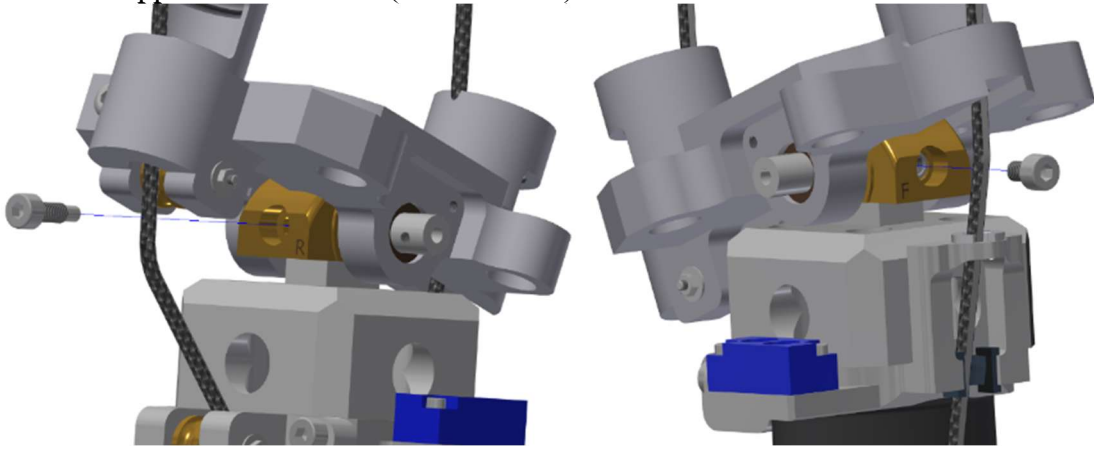

Figure 4-43. Secure O.C. Cam to Upper Neck Load Cell
- 4.3.15 Tighten the occipital condyle screw on the rear (Figure 4-43 left) and then the M4 X 0.7 X 8 SHCS on the front (Figure 4-43 right) to secure the cam to the upper neck load cell (SA572-S105).